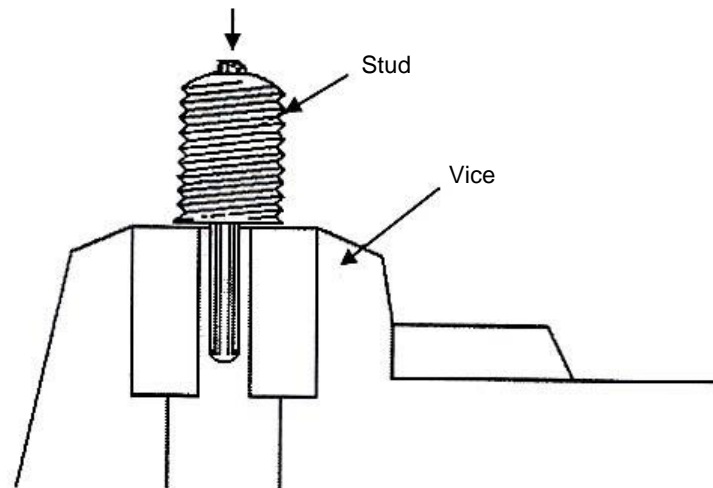

FIG 14.
- G. Open the jaws of a vice sufficiently to take the extractor with the stud resting on the jaws and tap the extractor out with a hammer and a pin punch. (Fig 14)